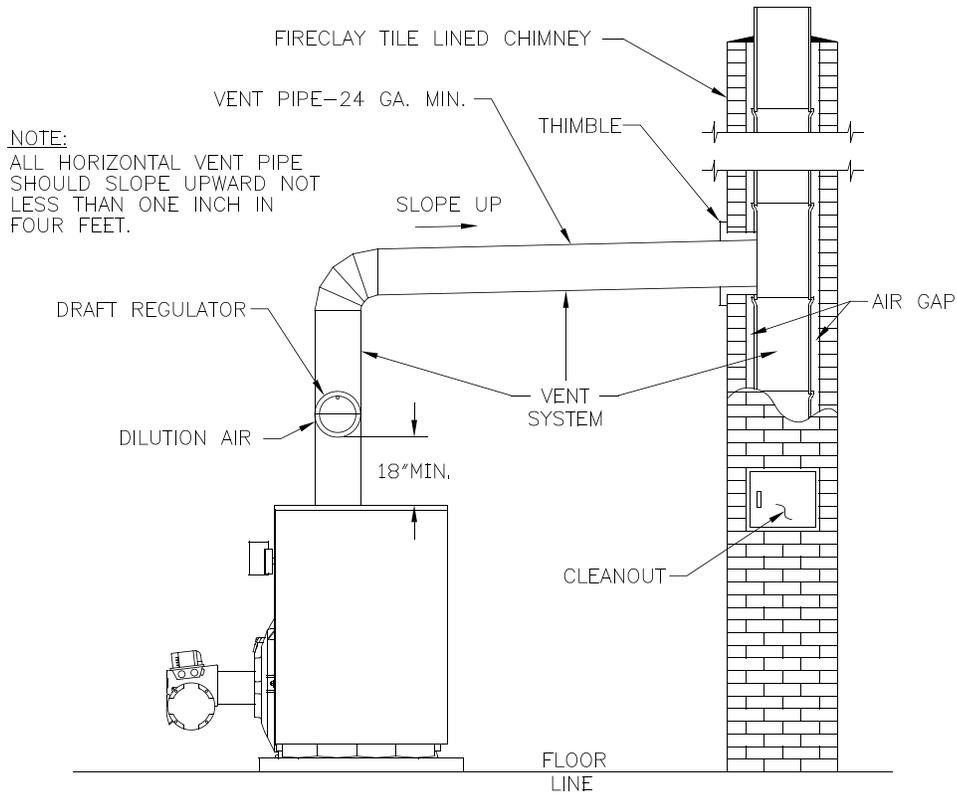

Figure 5-1: Recommended Vent Pipe Arrangement and Chimney Requirements
5. Draft Regulator – the draft regulator must be used with this appliance. Refer to Figure 5-1.